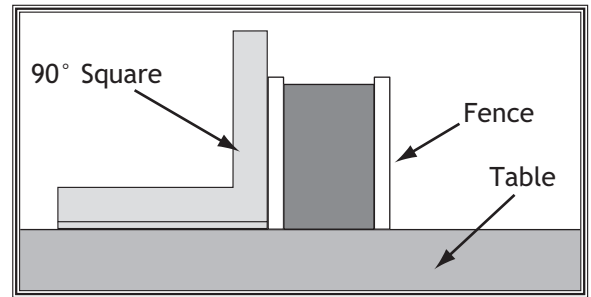

Figure 105. Checking if fence is square to table.
2. Place a square on the table against the face of the fence (see **Figure 105**) to check if the fence is square to the table.